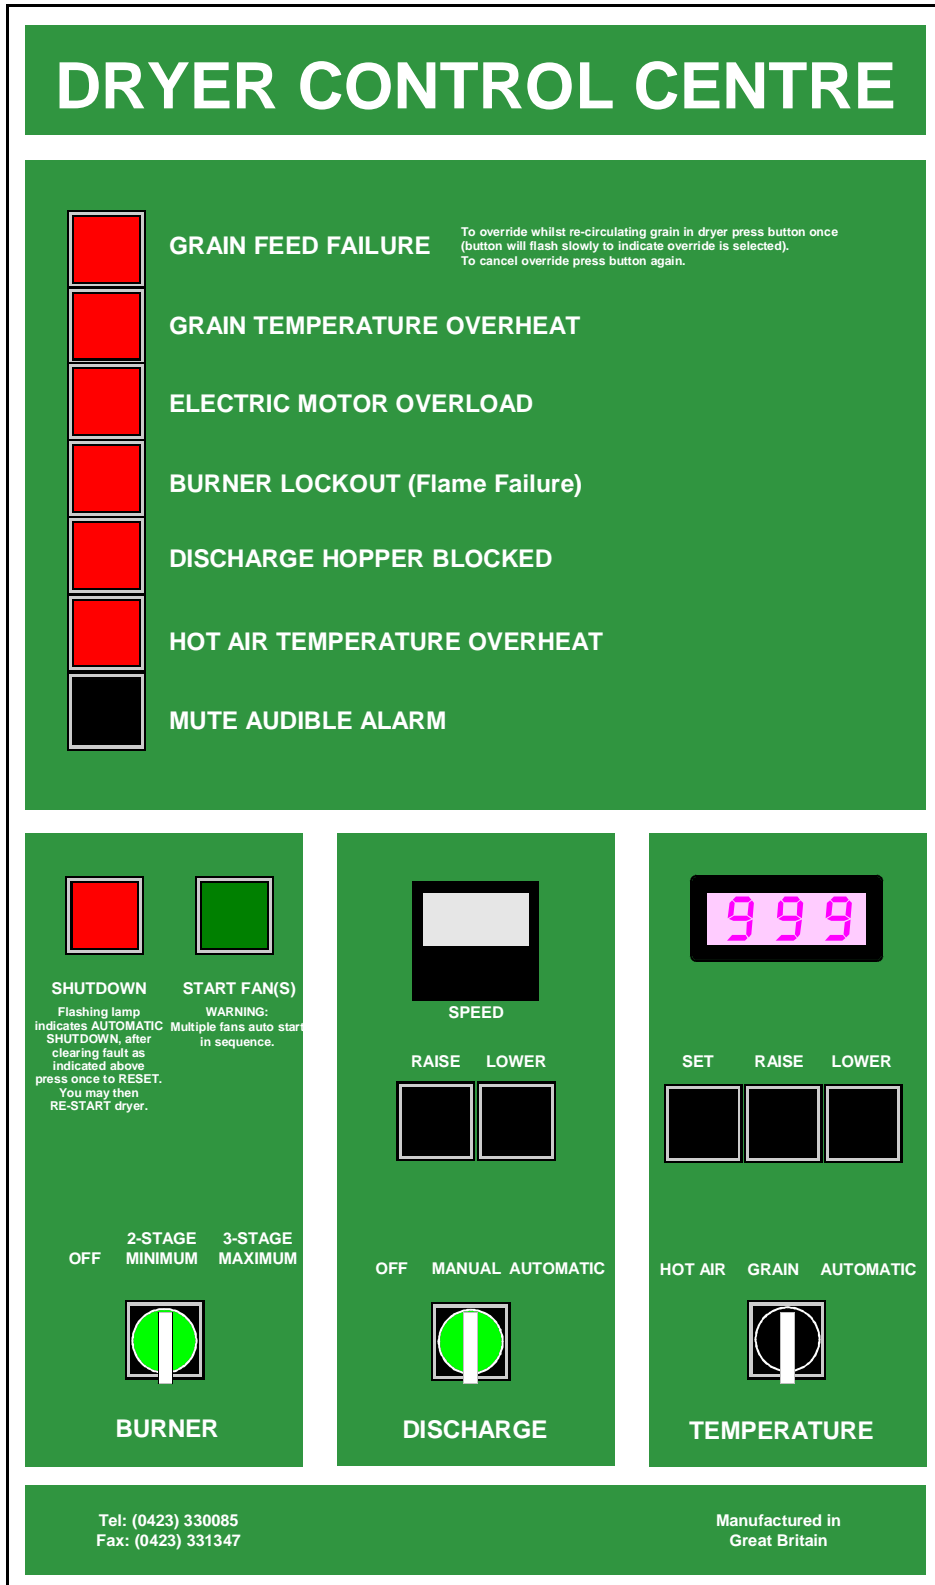

Figure 1 - Dryer Control Panel
g. Dryer Control Panel (See Figure 1, Page 3)